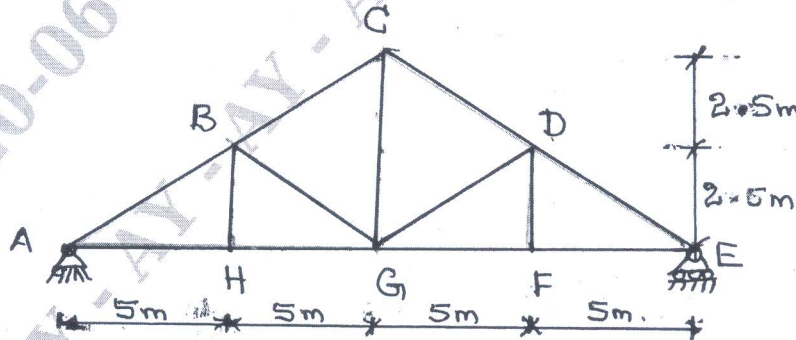

Fig.Q.3
- 3 The centre line of a roof truss is as shown in Fig.Q.3. The magnitude and nature of forces under service conditions are :